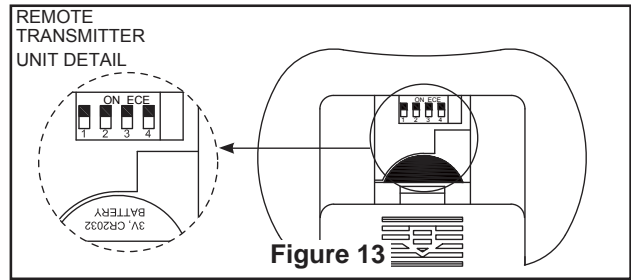

Figure 13
1. To set the transmitter code, remove battery cover by pressing firmly below arrow and sliding cover off. Slide code switches to your choice of up or down position. Factory setting is all up. Do not use this position. With a small screwdriver or ball point pen slide firmly up or down. Replace battery cover on the transmitter (Figure 13).